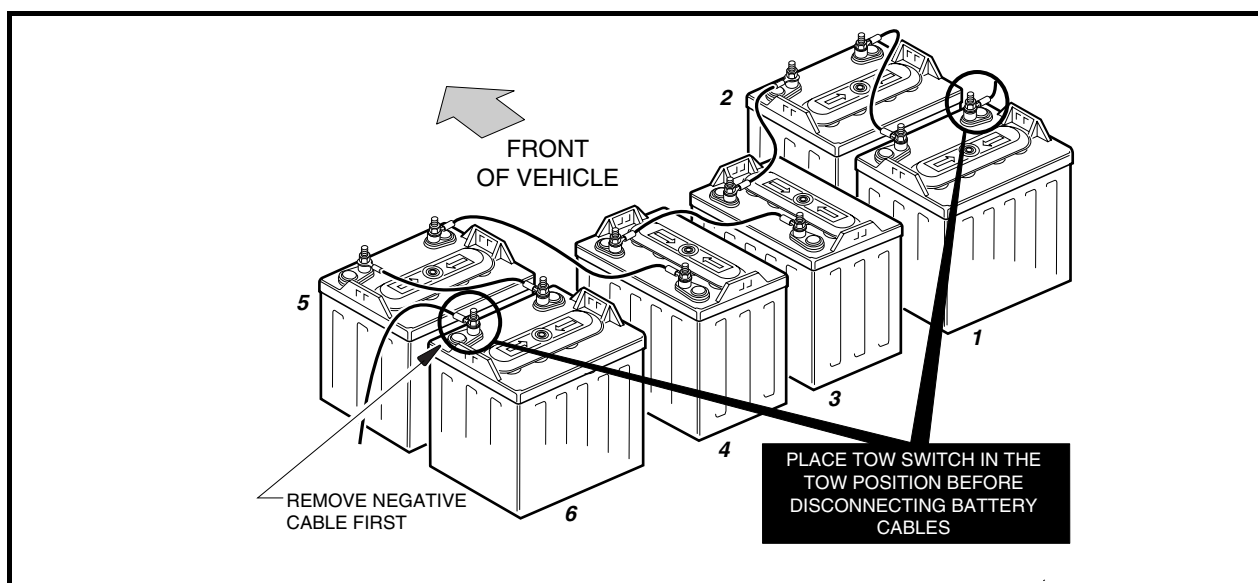

Figure 11-9 PowerDrive Plus Battery Configuration
- TO AVOID UNINTENTIONALLY STARTING THE VEHICLE, PLACE TOW/RUN SWITCH IN **TOW**, THEN DISCONNECT BATTERIES AS SHOWN IN **FIGURE 11-9, PAGE 11-10** WHEN PERFORMING TESTS THAT DO NOT REQUIRE THE ELECTRICAL SYSTEM TO BE ENERGIZED.